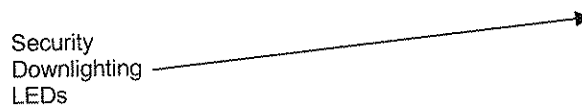

Figure 17: Head with the Solar Panel Assembly Removed
2. Disconnect the solar panel connector (see Figure 17).